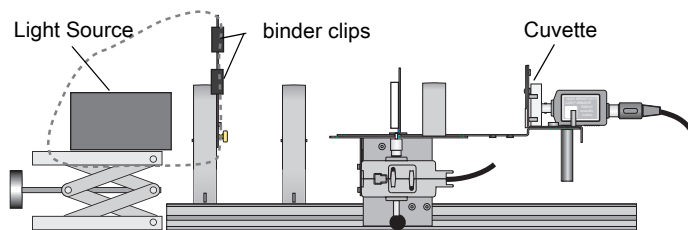

Figure 2.2: Equipment Setup for Absorption Spectrum
2. Put an empty cuvette in front of the High Sensitivity Light Sensor between the sensor and the back of the Aperture Disk. Make sure that the smooth sides of the cuvette are in line with the opening to the sensor (Fig. 2.2).